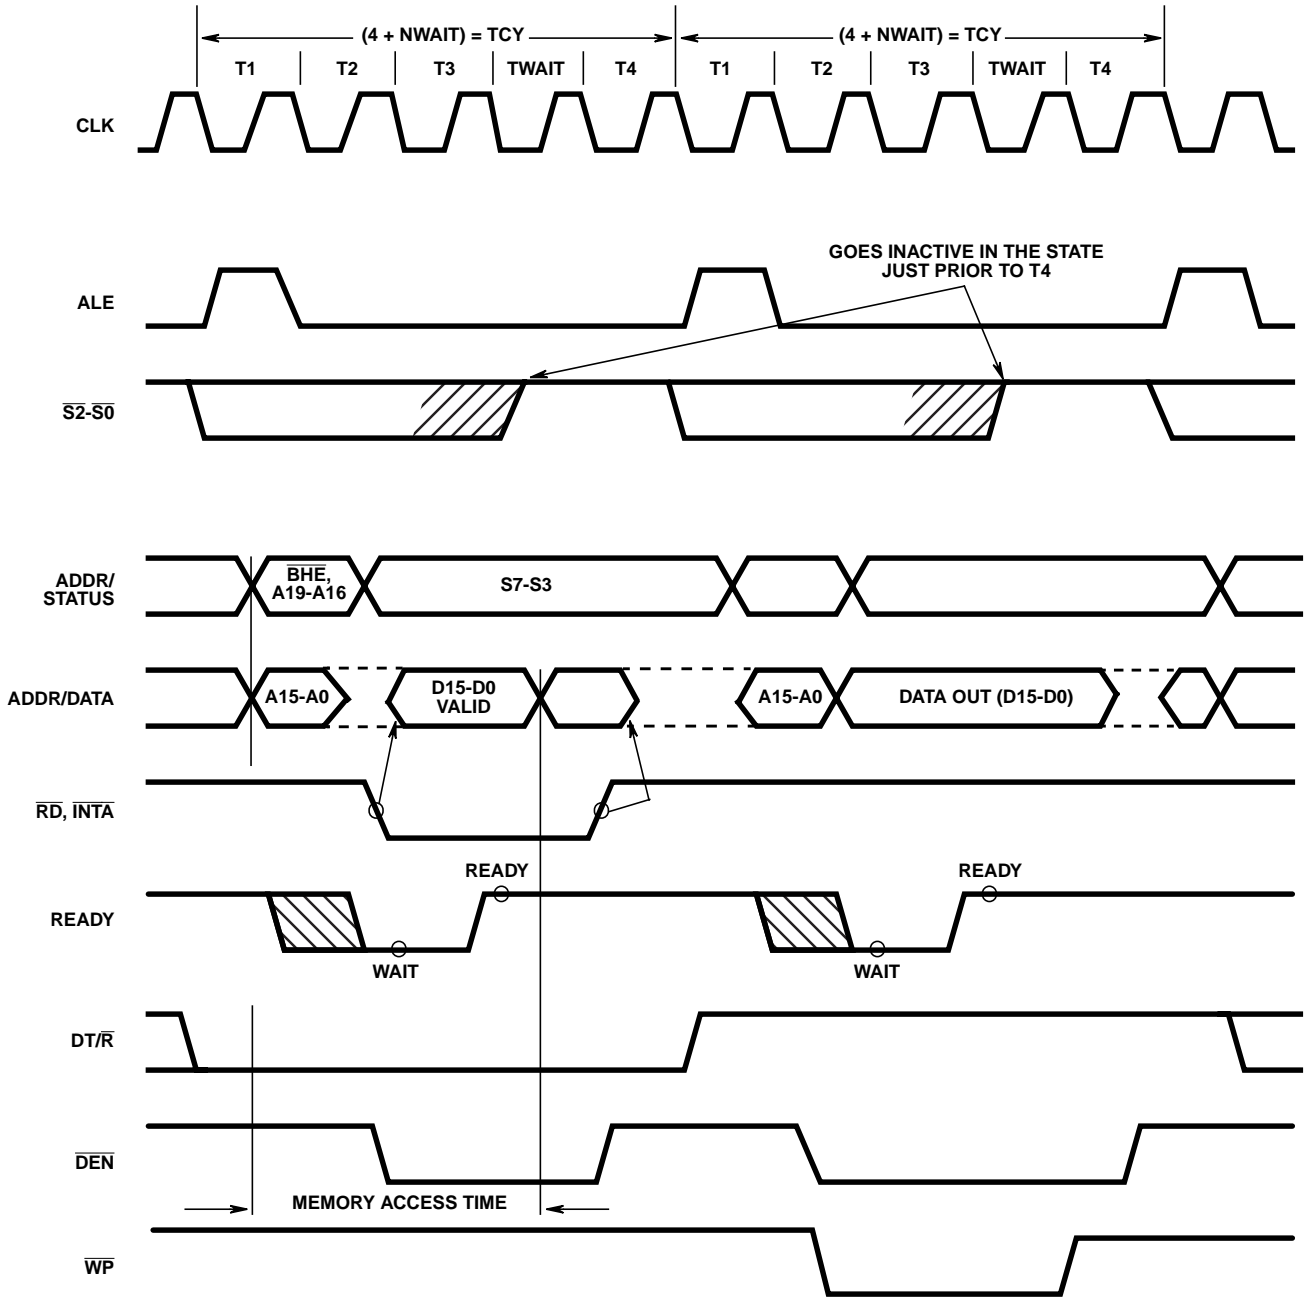
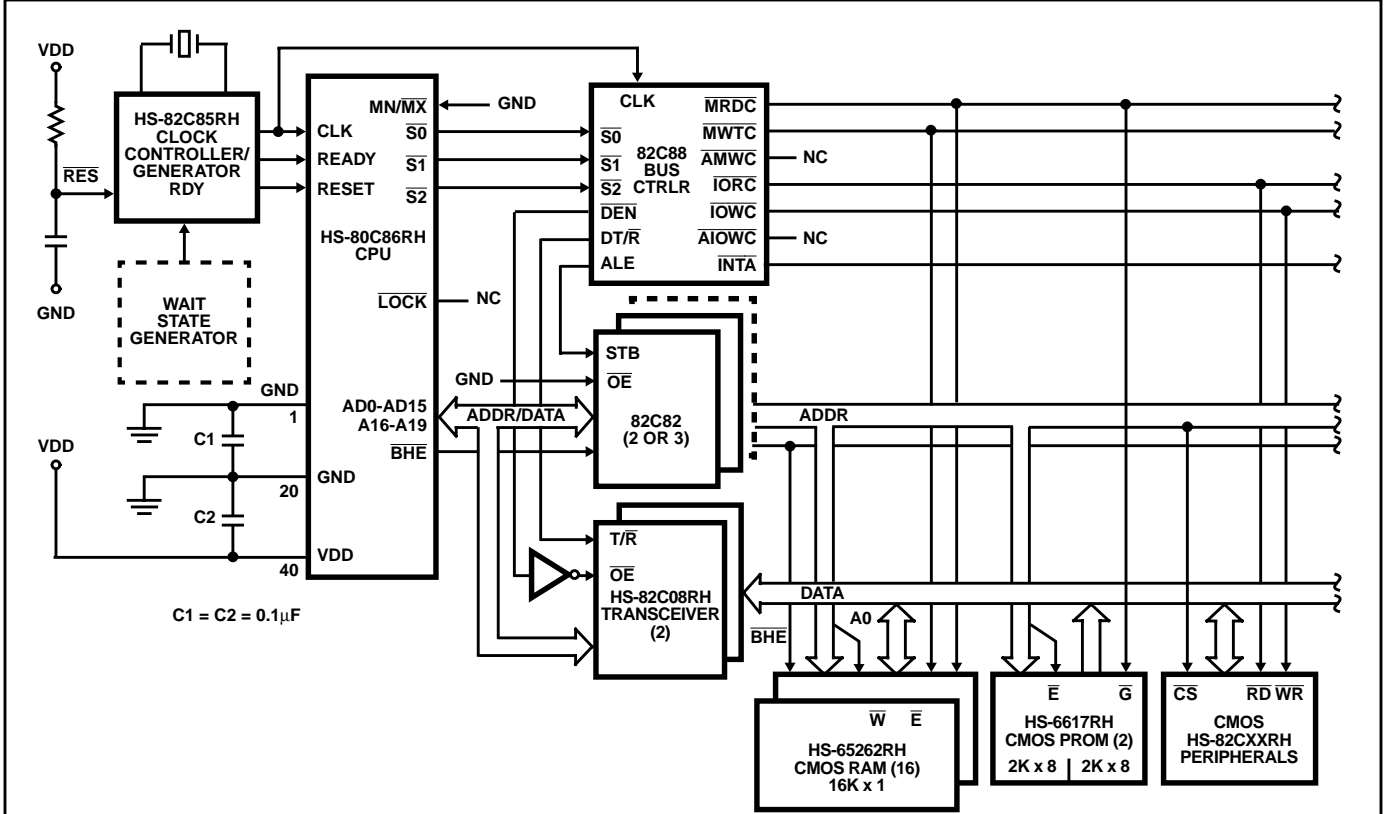

FIGURE 3. BASIC SYSTEM TIMING
FIGURE 6A. MAXIMUM MODE HS-80C86RH TYPICAL CONFIGURATION
Each processor bus cycle consists of at least four CLK cycles. These are referred to as T1, T2, T3 and T4 (see Figure 3). The address is emitted from the processor during T1 and data transfer occurs on the bus during T3 and T4. T2 is used primarily for changing the direction of the bus during read operations. In the event that a “NOT READY” indication is given by the addressed device, “Wait” states (TW) are inserted between T3 and T4. Each inserted wait state is the same duration as a CLK cycle. Idle periods occur between HS-80C86RH driven bus cycles whenever the processor performs internal processing.
Typical system configurations for the processor operating in minimum mode and in maximum mode are shown in Figures 6A and 6B, respectively. In minimum mode, the MN/MX pin is strapped to VDD and the processor emits bus control signals (e.g. $\overline{\text{RD}}$, $\overline{\text{WR}}$, etc.) directly. In maximum mode, the MN/MX pin is strapped to GND and the processor emits coded status information which the 82C88 bus controller used to generate MULTIBUS™ compatible bus control signals. Figure 3 shows the signal timing relationships.